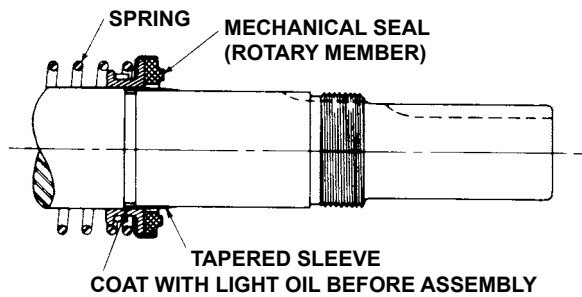

FIGURE 11
4. Place tapered installation sleeve on shaft, **refer to Figure 11**. Sleeve is furnished with GG, AS, AK and AL size replacement mechanical seals. Coat rotor and shaft assembly, tapered installation sleeve and inner diameter of mechanical seal rotary member with a generous amount of non-detergent SAE 30 weight oil. Petrolatum may be used but grease is not recommended.